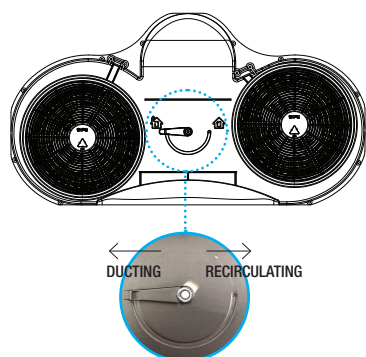
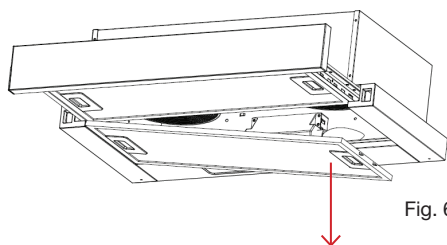
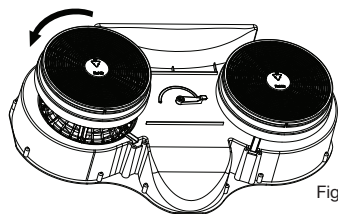

Fig. 1
Fig. 6
Fig. 8
Before Installation, please decide the extraction mode with the adjuster on the motor (Fig. 1).
3. Remove the aluminium grease filters (Fig. 6. on page 10) from the underside of the rangehood. Turn the switch in the centre of the motor housing to “External Outside Ducting” position (Fig. 1)
4. Remove the charcoal filters by twisting anti-clockwise (Fig. 8 on page 11). The charcoal filters are not required for “external outdoor ducting mode”
To ensure that the mode is correct, remove the grease filters (see Fig. 6) and check that the switch is in "Recirculation mode" position (Fig. 1).
To remove the charcoal filters you will first need to remove the grease filters (see Fig. 6), now twist anti-clockwise and pull down as shown in Fig. 8.